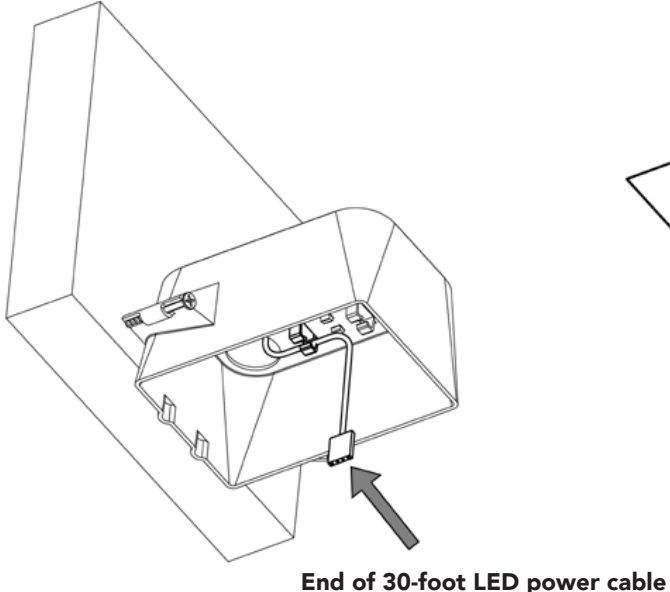

Figure 9
4. Route one end of the 30-foot LED power cable through the knockout into the junction box, and fasten it to one of the interior clips to hold it in place (**Figure 9**). Note that both longer ends of the 30-foot LED power cable are the same.